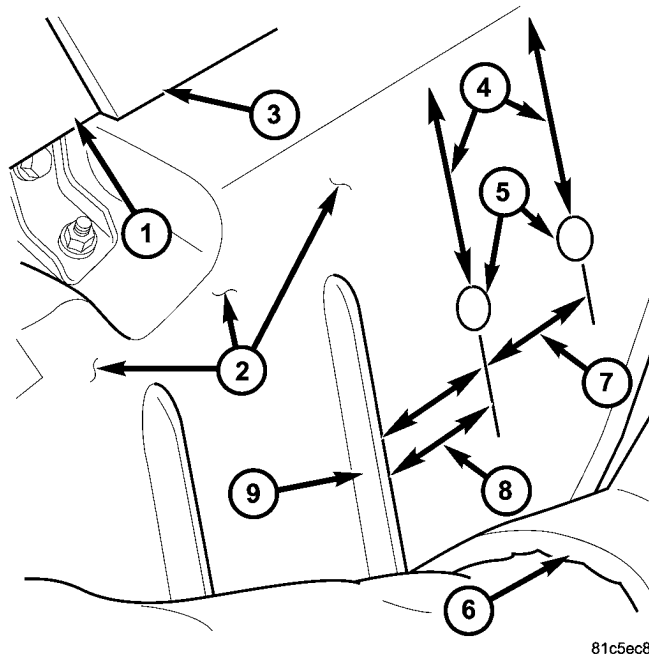

Fig. 1 FLOOR PANEL - RIGHT FRONT TUNNEL
2. From the figure locate the suspect area on the floor panel (**Fig. 1**), in the area of the transmission tunnel where the panel may flex.